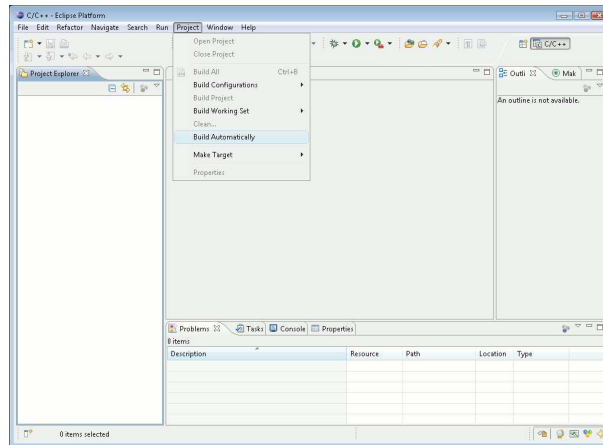

Figure 4.5: Deselect the “Build Automatically” flag in the “Project” menu.
5. Before creating and building your application, please deselect the “Build Automatically” flag inside the “Project” menu, as shown in Figure 4.5.